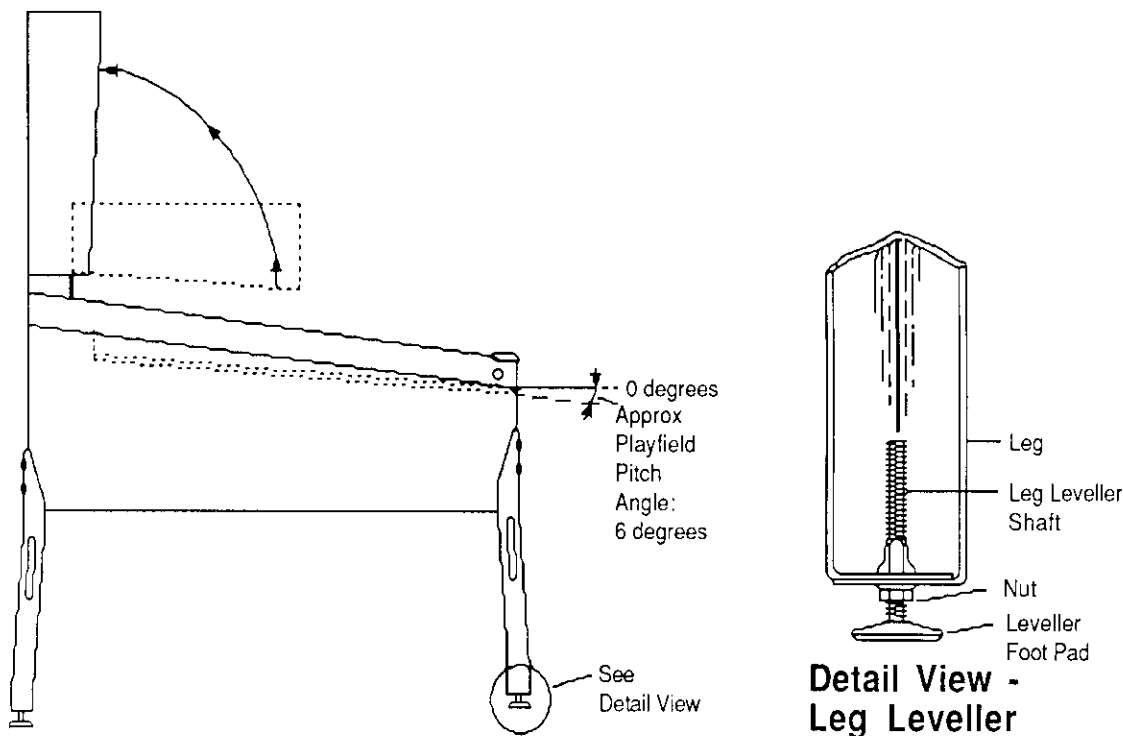

Figure 3. Pinball Assembly, Playfield Pitch Angle, and Leg Leveller Details.
3. Attach the front legs (after installing leg levellers), using leg bolts. See Figure 3 for details.
7. Adjust the leg levellers for proper playfield level (side-to-side) *and* playfield pitch angle (incline) of approximately 6 degrees. (Again, it is recommended that these measurements be made ON the playfield, not the cabinet nor the playfield cover glass.) Tighten the nut on each leg leveller shaft to maintain this setting, as shown in Figure 3.